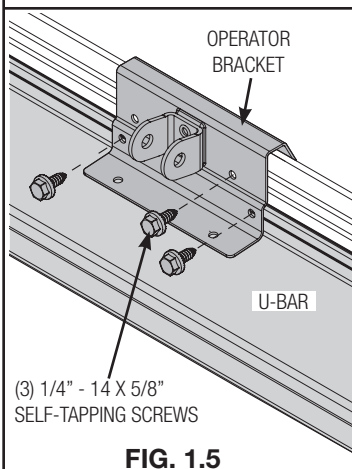

FIG. 1.5
First attach (3) 1/4" - 14 x 5/8" self-tapping screws to the operator bracket, as shown in **FIG. 1.5**.